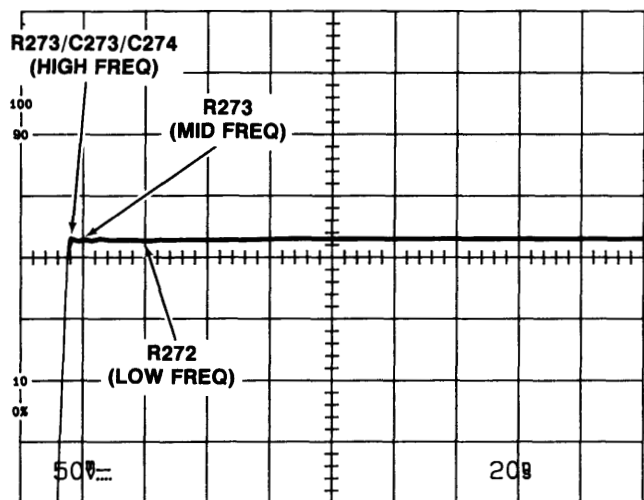

Figure 5-1. Areas of waveform affected by HF compensation.
- e. ADJUST—DLY LINE COMP adjustments (R272, R273, R275) for flattest response and (C274, C273) for sharpest front corner with minimum overshoot. Figure 5-1 shows the area of the waveform is affected by each adjustment.